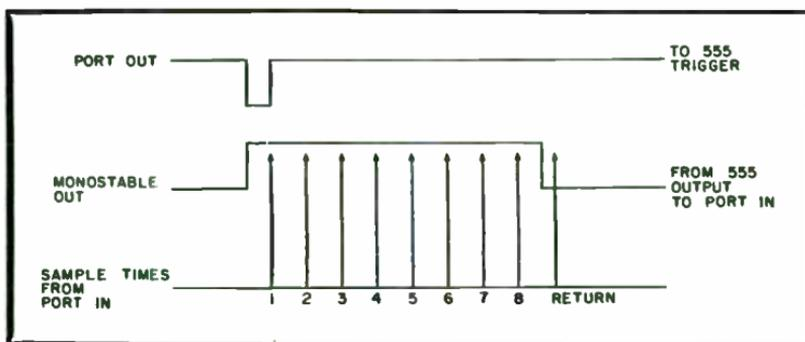

Fig. 4-18. Trigger Signals.
Circuit Operation. The monostable is triggered under control of an output port bit. Triggering the 555 requires a trigger signal going from a high (+5) level to a low (0) level for a brief period and then returning the trigger signal to a high level (Fig. 4-18). The monostable now switches its output to a high level and this level is sampled at an input port until the monostable times out. While the monostable is timing out, a count is made. This count is